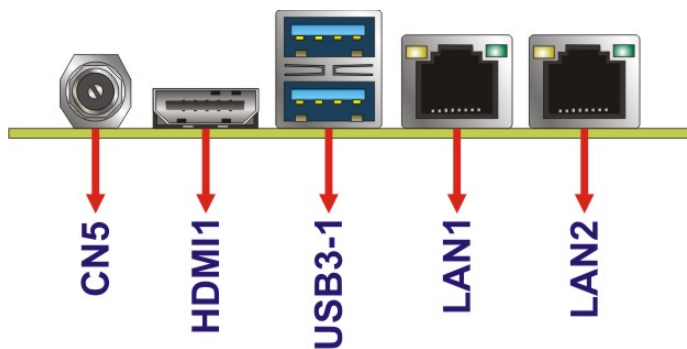

Figure 3-18: External Peripheral Interface Connector
Figure 3-18 shows the HYPER-AL external peripheral interface connector (EPIC) panel. The EPIC panel consists of the following:
CN Location: See **Figure 3-18**
- CN Location:** See **Figure 3-18**
CN Location:	See Figure 3-18